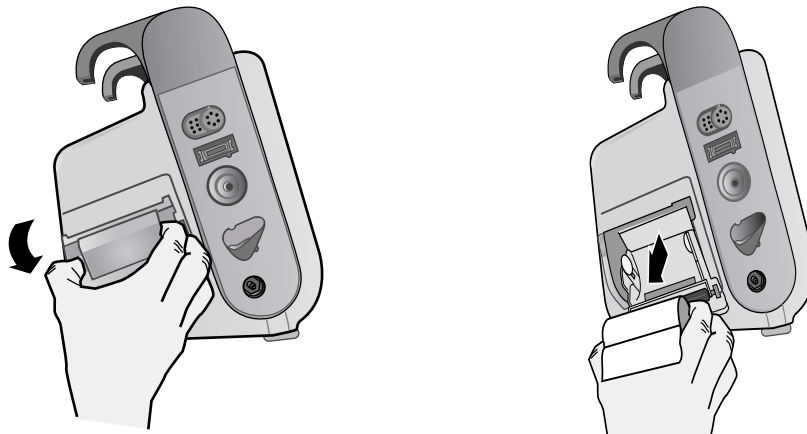

Figure 26-1. Opening the Printer Door and Removing Paper
1. Pull the printer door open (see Fig. 26-1), then remove any paper.